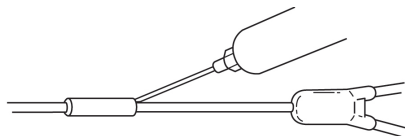

Fig. 9
9. Inject adhesive into both ends of the sleeve. (Fig. 9) Wipe off excess adhesive.